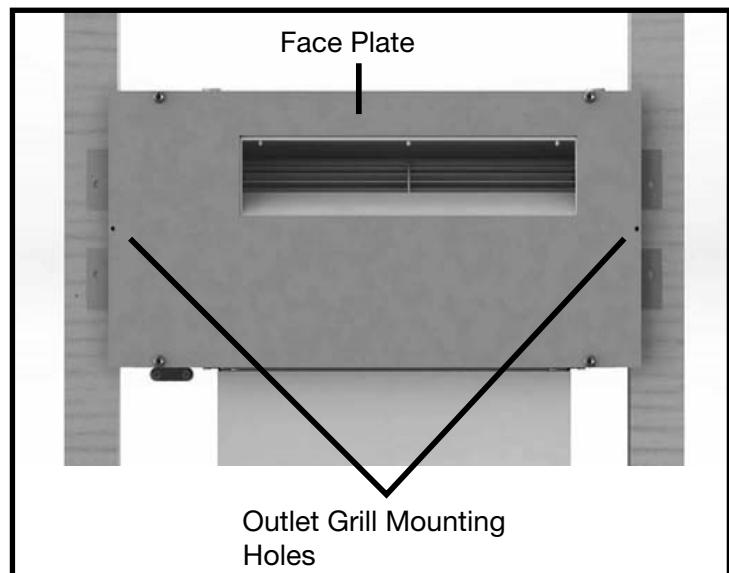

Figure 27: Grill mounting holes.
- Re-install the Face Plate (Figure 27) and then attach the Outlet grill(s) over the outlet(s) Face Plate using the screws provided by aligning the screws for the outlet grill with the holes in the casing face plate.